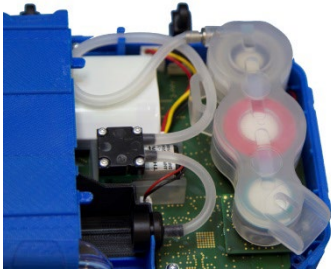

Fig. 53: Sensor support placed on the sensors and hose of the gas path correctly installed in the holders.
- Remove the sensor support from the analyzer, see Fig. 53.